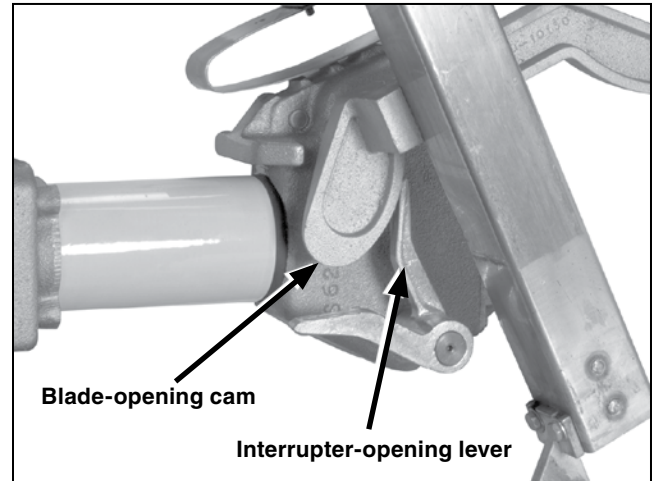

Figure 49. Blade assembly moving in the opening direction.
- (d) Move the blade in the opening direction and verify each blade shunt contact firmly engages its respective interrupter housing before the blade contacts disengage from the stationary main contact assemblies. See Figure 49 on page 29. The shunt contacts may be bent as required to conform to these conditions.
- (e) Also, as the blade assembly moves in the opening direction, the two blade-opening cams must simultaneously make positive engagement with their respective interrupter-opening levers. Simultaneity is essential to ensure both interrupters share the interrupting duty. The opening lever on one or both interrupters may be bent slightly to attain opening simultaneity. See Figure 49.